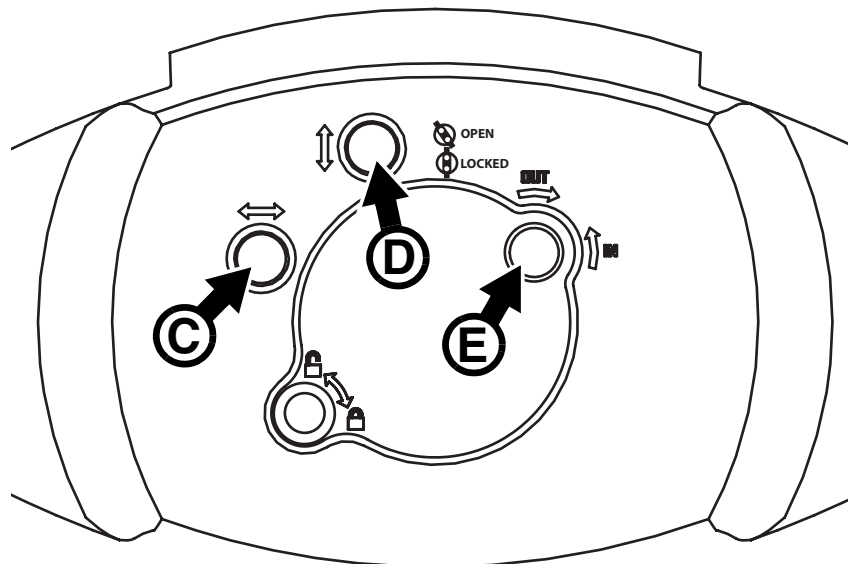

Figure 11: Lamp adjustment
4. See Figure 11. Turn the three Torx 20 lamp adjustment screws **C**, **D** and **E** to obtain the most even beam.